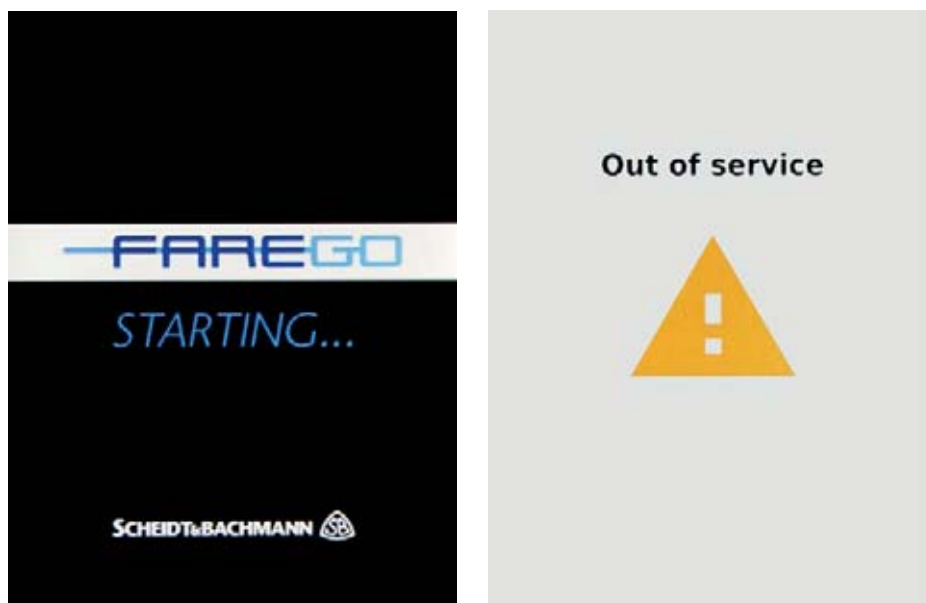

Figure 4-9 BAT - Pre-Initialization, Booting
- Step 11** The base unit boots automatically and then displays the “Out of service” screen, see **Figure 4-9**.